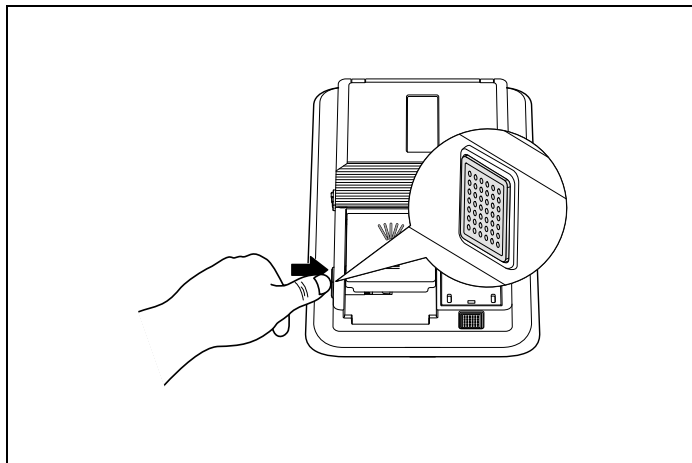

Fig. 61
- 1) Press the button on the left side to open the detergent container as shown in the image (Fig. 61).